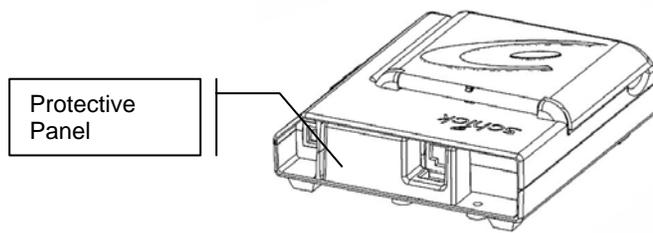

Figure 10. SDX USB Interface with Protective Panel Attached
2. Using a Phillips screwdriver, secure the protective cover to the SDX USB Interface with one (#6 x 3/4) screw (provided). (See **Figure 10**.)